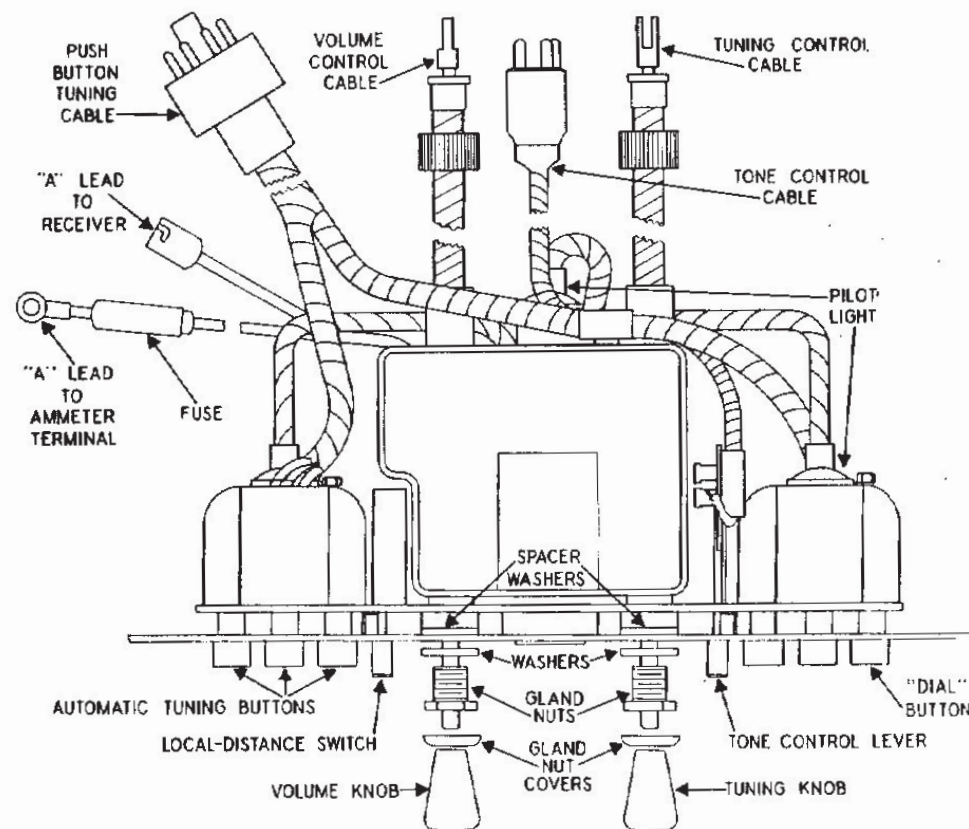
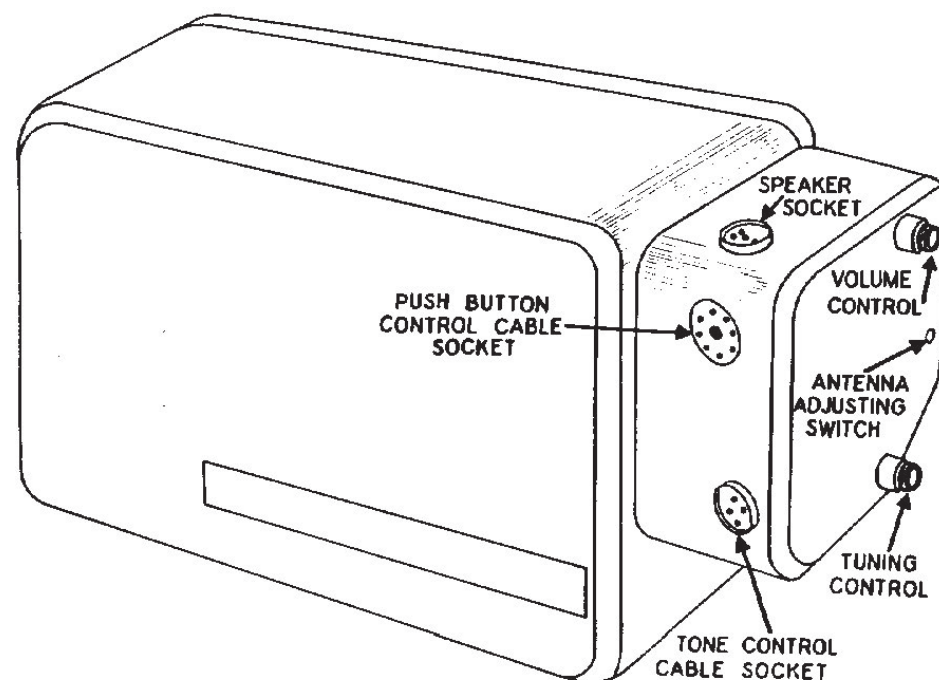

FIG. 2
FIG. 3
Bolt the control head and face plate to instrument panel using the two thin washers included with this radio, between the gland nuts and the control shaft bushings (see Fig. 2). The gland nuts screw into the control shaft bushings and hold the control head and face plate in position.
The tenite face plate used in these models must be slipped into position from the side. In order to do this, push the control head back until the shafts do not project out of the holes in the panel, then slide the face plate into position from the glove compartment side. Bolt the control head and face plate to the instrument panel using the two thin washers, included with this radio, between the gland nuts and the control shaft bushing (see Fig. 2). The gland nuts screw into the control shaft bushings and hold the control head and face plate in position.
12. Place the gland nut covers over the gland nuts (see Fig. 2) and then slide the two control knobs on the control shafts.
1. Insert the volume control cable in its proper coupling on the receiver case (see Fig. 3). As you do this, turn the volume (**LEFT**) knob to be sure the shaft engages, then tighten the shaft coupling collar at the receiver case.
2. Insert the flexible tuning control cable (see Fig. 2) into its coupling in the side of the receiver case (see Fig. 3). Turn the tuning (**RIGHT**) knob until the shaft end engages and then tighten the shaft coupling collar at the receiver case.
5. Connect the speaker cable plug to the socket on the top of the tuning motor housing (see Fig. 3).
7. Push the tone control plug into its proper socket on the side of the receiver case (see Fig. 3).